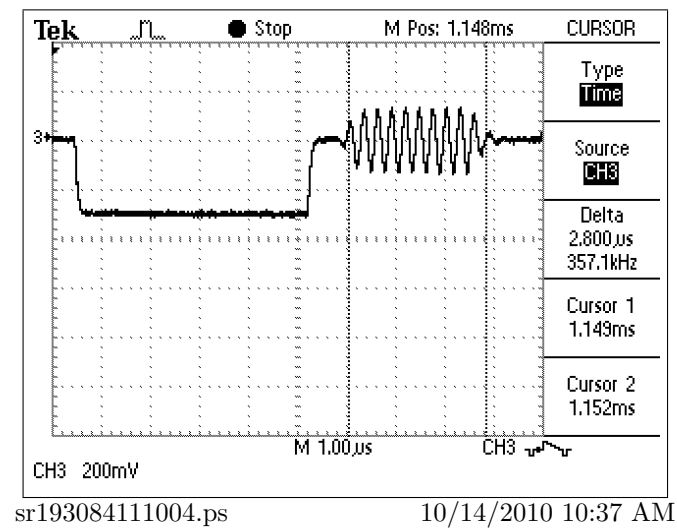

Figure 4: VK-S275R 0501-0102, Color Burst, Timing, Capture #2
- 9.4 Figure 4, page 4, shows the timing of the Color Burst signal.